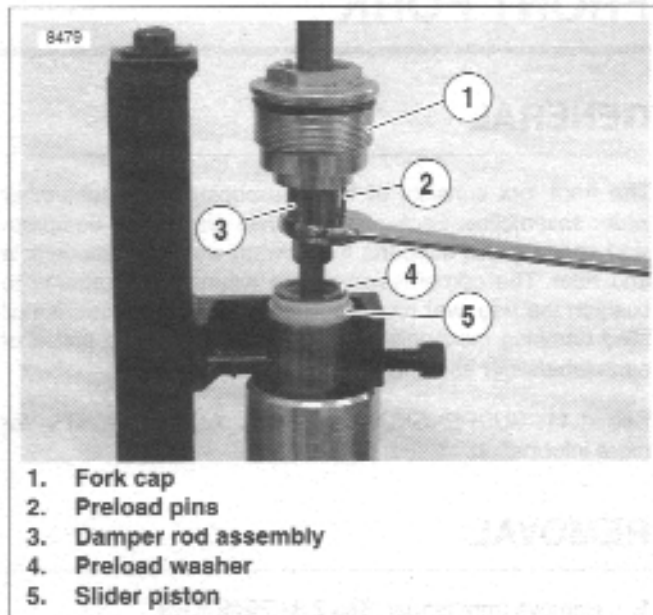

Figure 2-61. Holding Damper Rod Assembly
7. See Figure 2-61. Hold damper rod assembly (3) and remove fork cap (1).
See Figure 2-61. Careful not to damage preload pins (2) while holding damper rod assembly (3).
8. Remove preload washer (4) and slider piston (5).
20. See Figure 2-61. Install preload washer (4) and slider piston (5).
21. Hold damper rod assembly (3) and install fork cap (1) from damper rod assembly (3) tightening to 22-30 ft-lbs (30-40 Nm).
22. Apply fork oil or light grease to o-rings on preload adjuster and install preload adjuster (3).
23. Install snap ring (2).